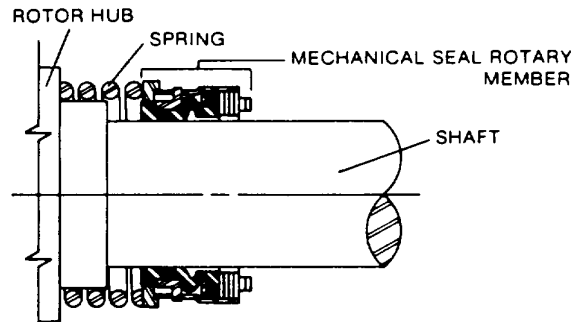

FIGURE 13.
4. Place seal spring on shaft against rotor hub. Refer to Figure 13.